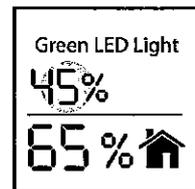

Fig. 22
- When the desired humidity level is reached, the green LED in the display will illuminate. The unit will continue to clean the air but will stop humidifying the air until the actual room humidity level falls below the desired level. This means that the water wheels will stop turning but the fan and filter are still operating (Fig. 22).